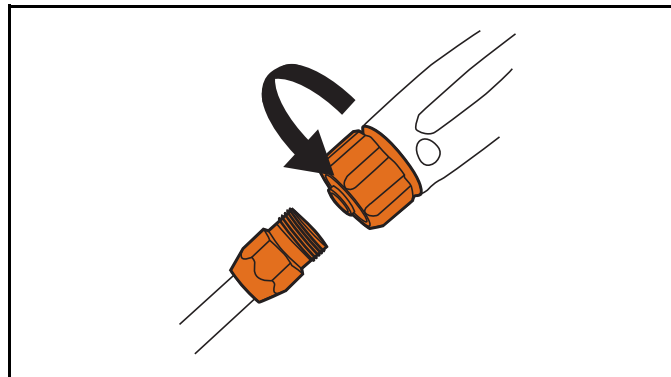

Figure 4-13. Attach Lance
4. Connect lance to spray gun (Figure 4-13). Tighten by hand.